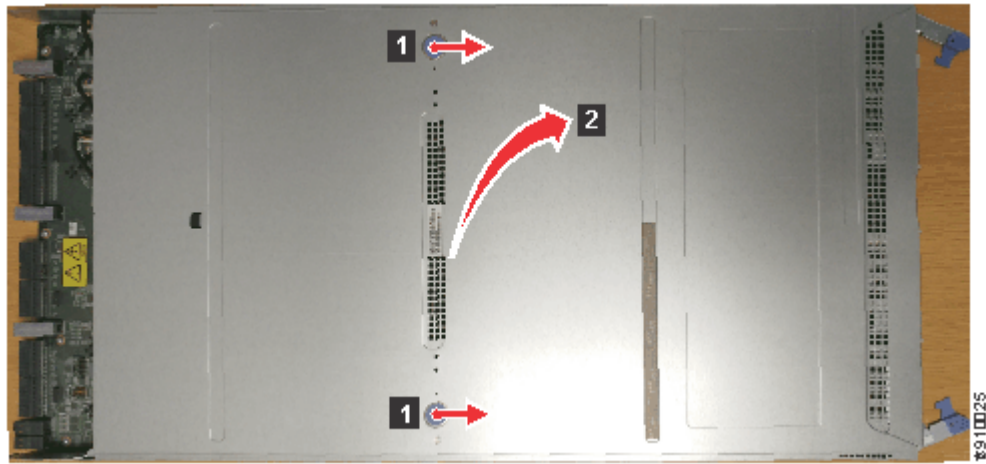

Figure 76. Removing the node canister cover
3. Open the cover of the node canister by depressing the recessed, blue touch points on the lid (1) and sliding the lid away from you (2), as shown in Figure 76 on page 127.